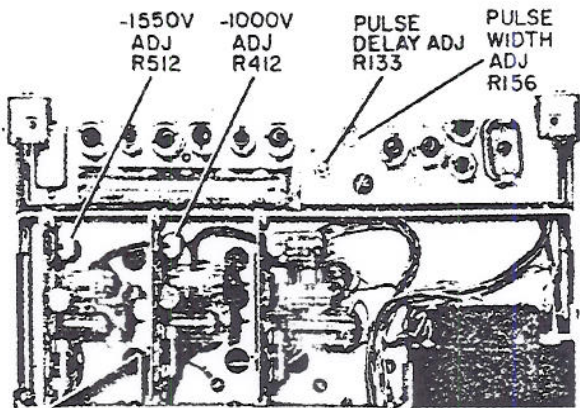

Figure 5-7. Location of Power Supply and Modulator Adjustments
e. Adjust potentiometer R412 (Figure 5-7) for -1000 ± 20 volts. Line voltage regulation ($115 \text{ V} \pm 10\%$) should hold the -1000 V supply to within $\pm 5 \text{ V}$; ripple should be less than 10 mV, p-p. The -300 V supply should track the -1000 V supply to $-300 \pm 10 \text{ V}$. Line voltage regulation ($115 \text{ V} \pm 10\%$) should hold the -300 V supply to within $\pm 5 \text{ V}$; ripple should be less than 10 mV, p-p.
g. Adjust potentiometer R512 (Figure 5-7) for $-1550 \pm 20 \text{ V}$. Line voltage regulation ($115 \text{ V} \pm 10\%$) should hold the -1550 V supply to within $\pm 5 \text{ V}$; ripple should be less than 15 mV, p-p.
d. Adjust potentiometer R133 (Figure 5-7) to give a delay of 300 μ s as measured on the calibrated Oscilloscope.
d. Adjust potentiometer R156 (Figure 5-7) so that width of pulse of 10 μ s as measured on the Oscilloscope.